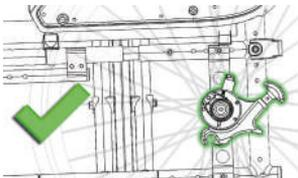
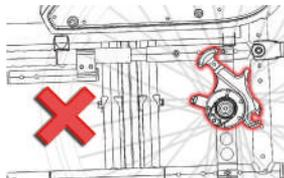

Figure 20
Figure 21
- Check that the Kit is securely fixed to the pins/nuts of the wheelchair. The correct fixing position is illustrated in Figure 20. Figures 21 and 22 show examples of incorrect positioning.